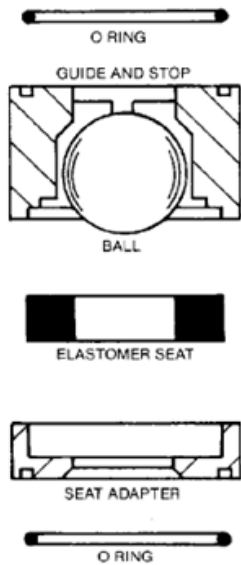

Fig. 36
- a) Slurry Valves (Figure 36), which have an elastomer seat for use with slurries containing abrasive particles.